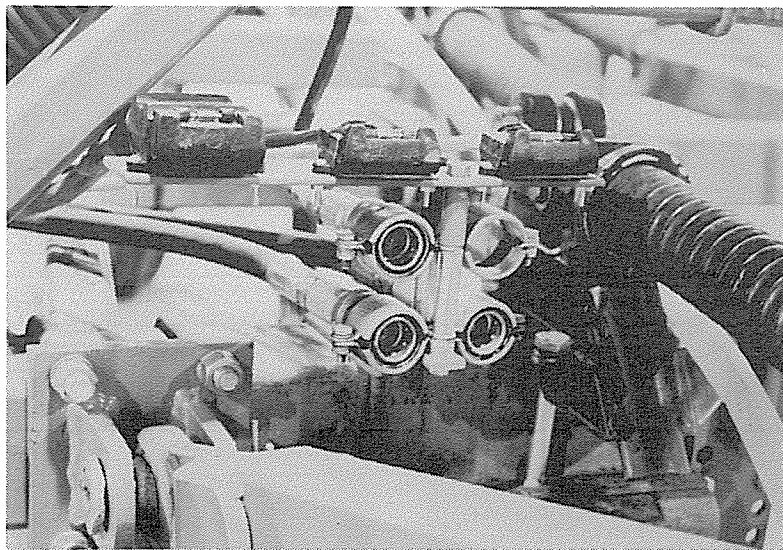

Figure 23
- (p) Connect the Monitor and Clutch Quick connectors at both the tractor/cultivator and the cultivator/airseeder connections. See Fig. 23.